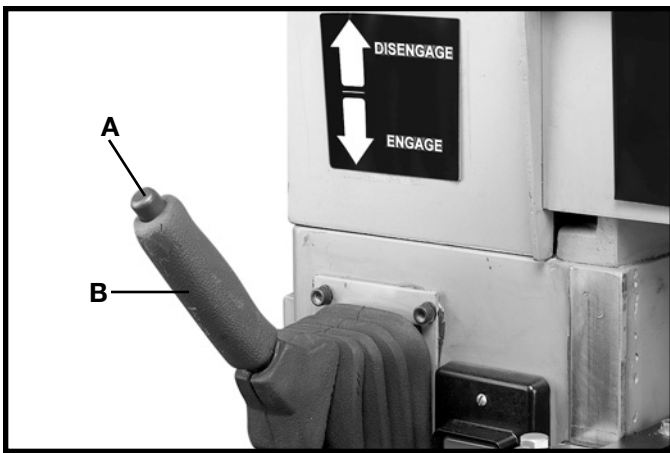

Fig. 16
1. To engage the feed rollers, simultaneously push button (A) Fig. 16, and pull downward on handle (B).